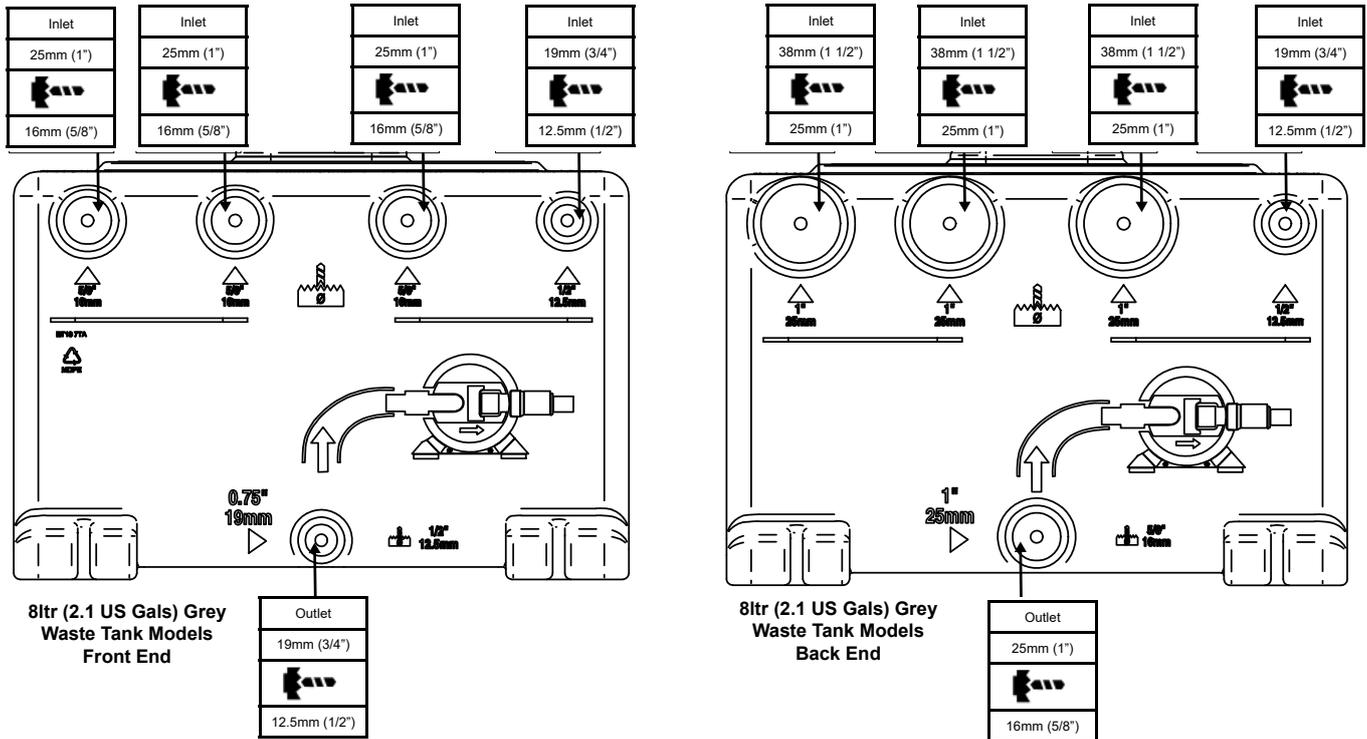
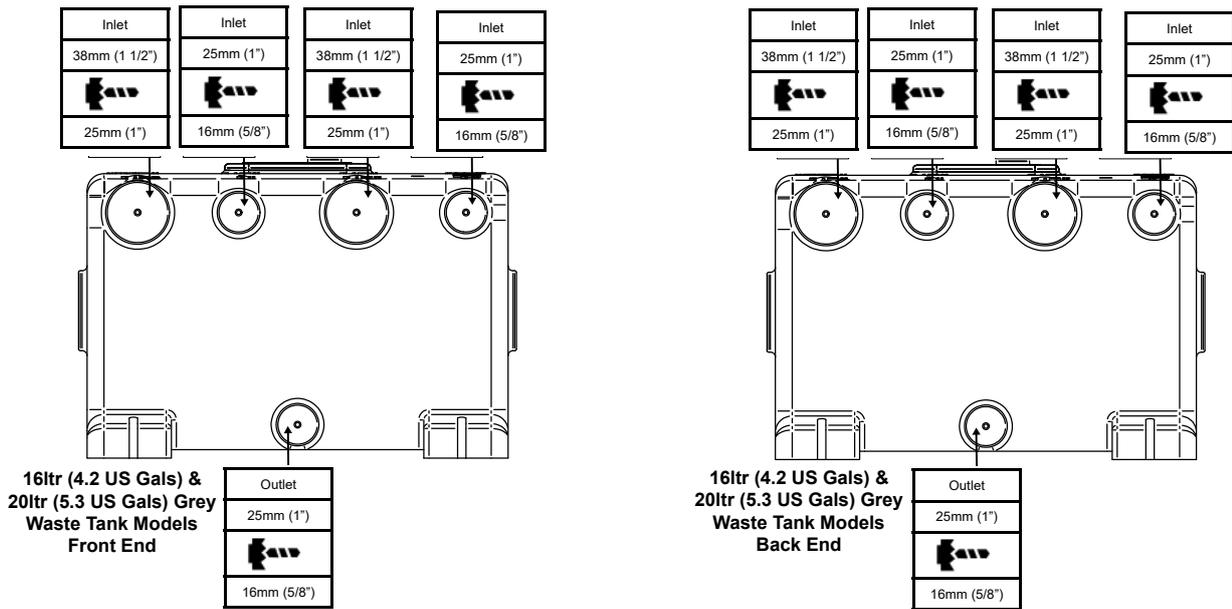

Figure 3 Port Sizes & Recommended Drill Diameters For 8ltr (2.1 US Gals) Grey Waste Tank Models
Figure 4 Port Sizes & Recommended Drill Diameters For 16ltr (4.2 US gals) And 20ltr (5.3 US gals) Tank Models
**Step 1:** Drill only the ports which are to be used in the installation. Port sizes and recommended drill diameters are shown in Figure 3 for 8ltr (2.1 US Gals) tank models, and Figure 4 for 16ltr (4.2 US Gals) and 20ltr (5.3 US Gals) tank models. Ensure all swarf is removed from inside the tank after drilling.